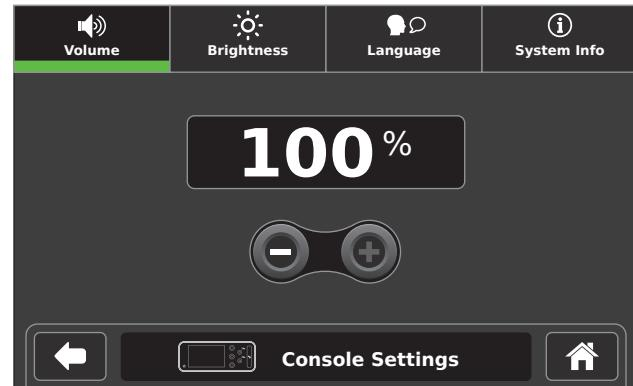

Figure 13 – Console Settings Screen
2. Touch the applicable menu tab to manage console settings as necessary (Figure 13):